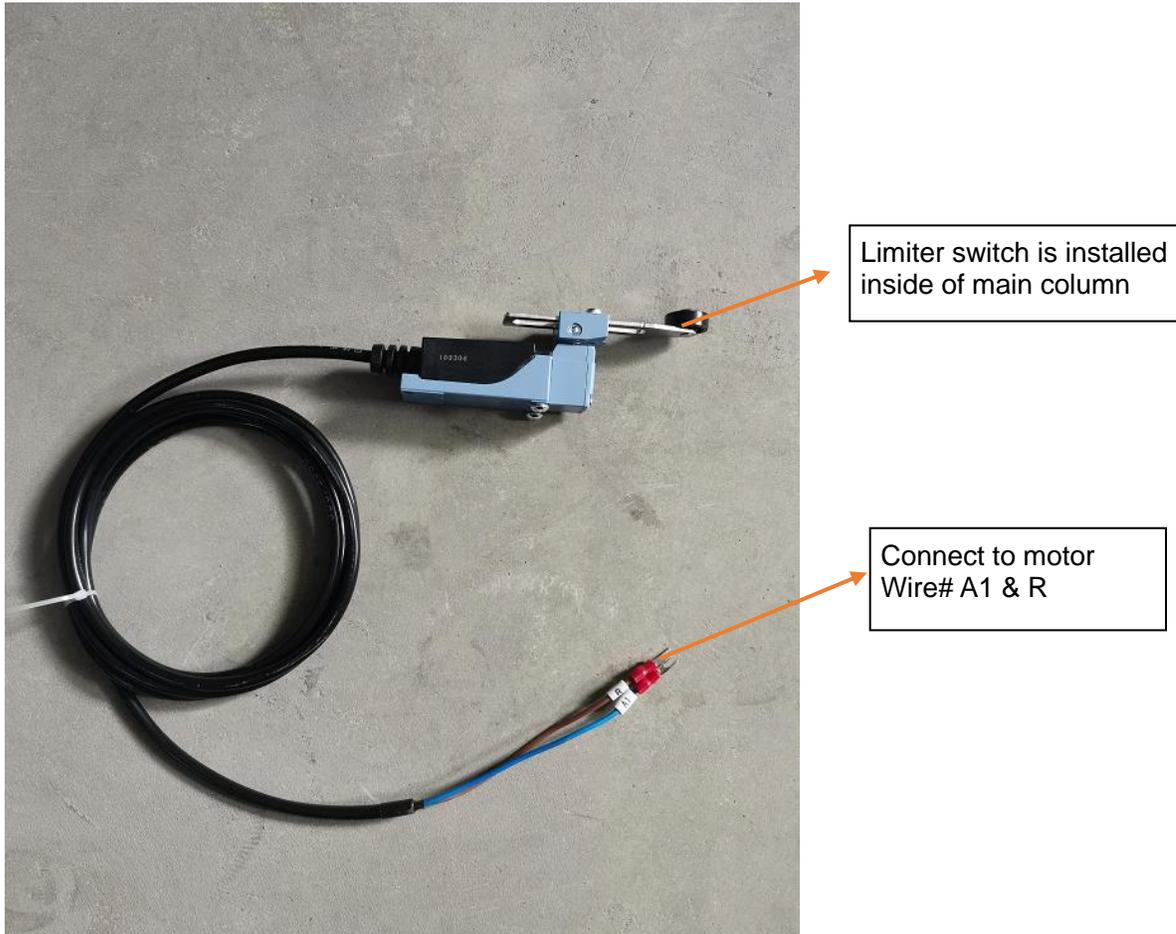

Fig. 9
1. View of the limiter switches (Fig.9):